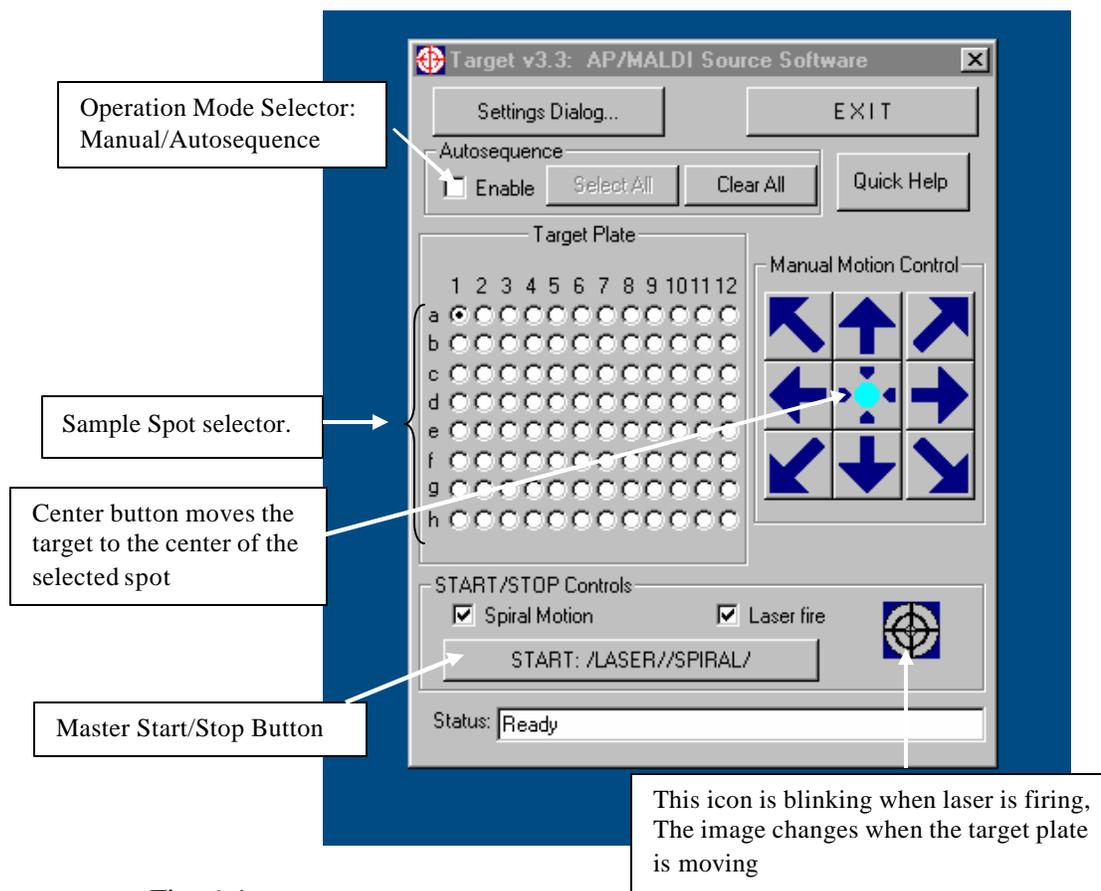

Fig. 6-1
After the installation process is completed, start the Target program in your conventional way. The Target window (Fig. 6-1 above) appears.
There are two modes of operation for the Target software: Manual (Enable/Autosequence Check Box is clear) and Autosequence. Switch between the modes by checking/unchecking the "Enable" Box. In manual mode, only one Radio Button of the group "Target plate" can be selected. Click any spot in the Target Plate field and the target plate will move to the selected position. You can shift the position of the spot by clicking the arrow buttons placed around the Center button (See Fig. 6-1). Click the Center button to restore the central spot position.
4. Click on the desired sample using the sample spot selector (map) provided in the *TARGET* software window (see Fig. 6-1). The target plate will move to this sample position and stop near its center (this is observable on the LCD monitor screen).
2. **Check** the "Autosequence-Enable" check box in the main *TARGET* software window (see Fig. 6-1) and **check** the "External Timing" radio button in the *TARGET*'s "Settings Dialog" window (see Fig. 6-3).